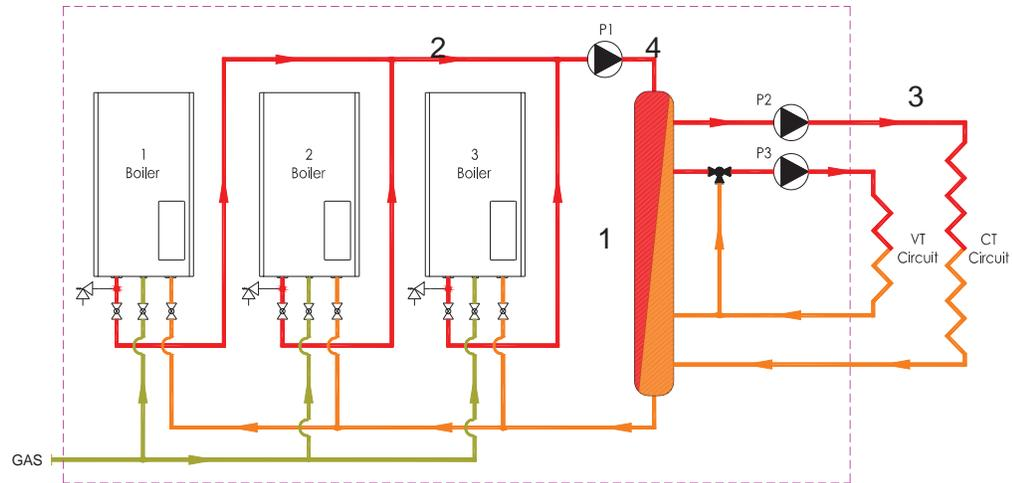

Figure 3
Another area worth looking at is hydraulic system design. A typical LTHW system design is shown in figure 3.
Here primary flow (1) is created by individual boiler shunt pumps (2). This eliminates the problem of flow through unfired boilers as the shunt pumps are interlocked with the boiler controls. However, the designs shown in figures 3 and 4 still utilise a capacity based control philosophy with constant speed pumps. It's all about the capacity of the boilers and not the demand on the system.